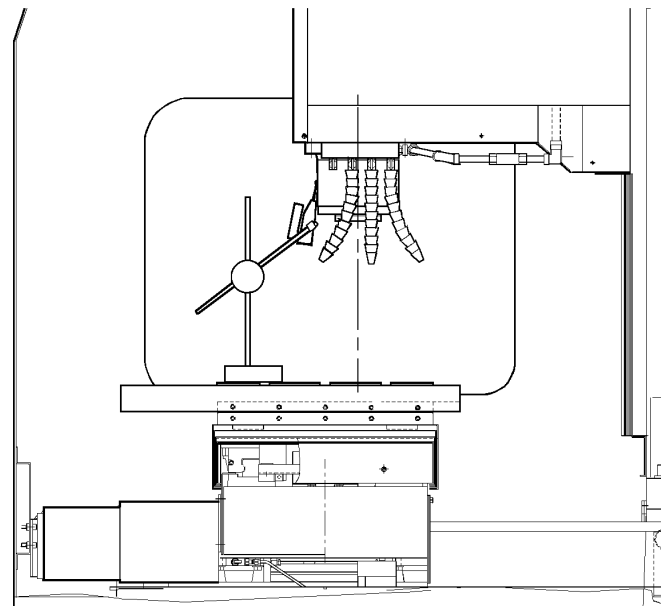

Fig. 3-2 Dial indicator in position to check Y-axis.
1. Set up a dial indicator and base on the mill table as shown in Fig. 3-2.
An alternate method for checking backlash is to place the dial indicator as shown in Fig. 3-2 and manually push on the mill table in both directions. The dial indicator should return to zero after releasing the table.